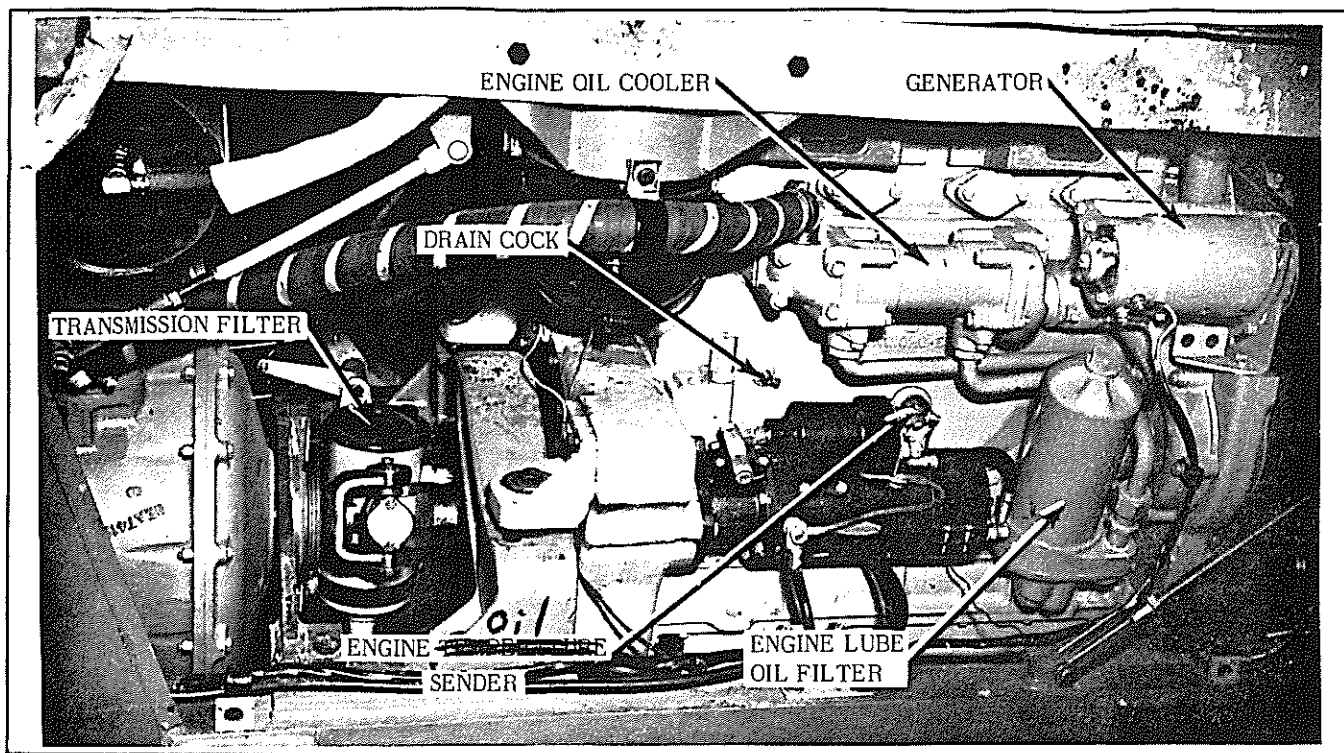

FIG. 22 - TRANSMISSION OIL FILTER AND LUBE OIL FILTER
B. LUBRICATING OIL FILTER (See Fig. 22)
The engine oil cooler (Fig. 22) located on the left side of the engine, consists of a corrosion resistant cooling core and tank. The water pump circulates coolant through the